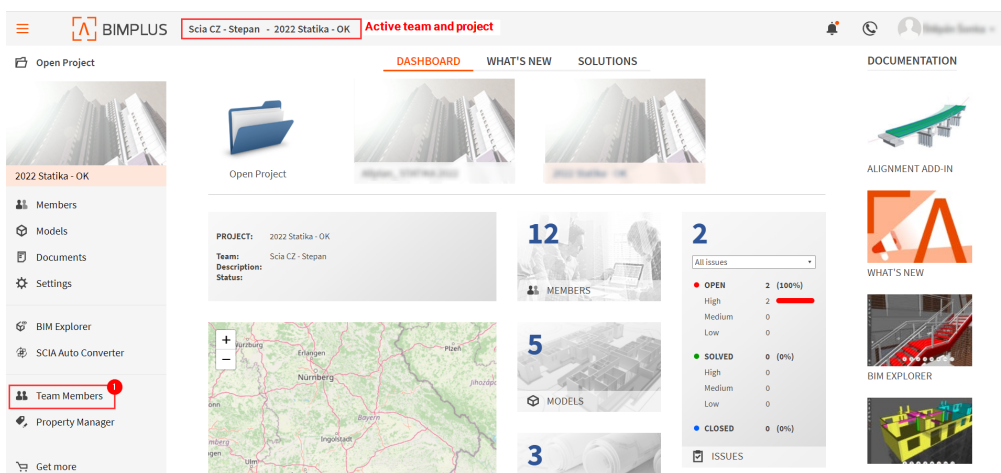

Figure 45: Bimplus dashboard - Team members
1. On the Bimplus dashboard, click on the "Team members" in the left tab and "Subscription and users" page should be opened in a new tab of your browser. (In case the option is missing, double-check that you have the right team active.) (Figure 45)